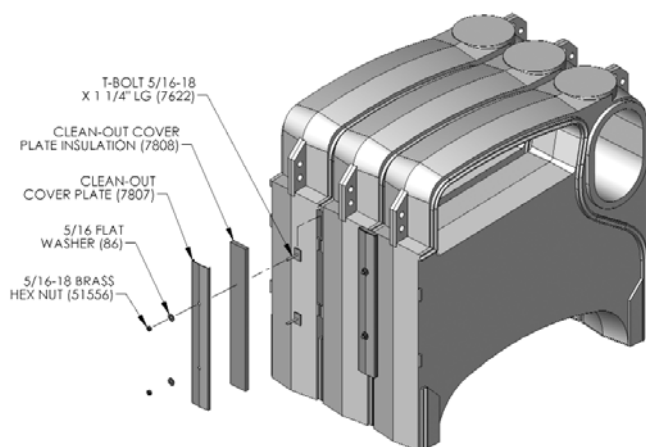

Figure 2.8: Clean-Out Cover Installation
1. Attach the clean-out cover plates and insulation to the clean-out openings on the left side of the boiler. Use the T-bolt assemblies and hex nuts provided in the Section Assembly Cartons. See Figure 2.8.